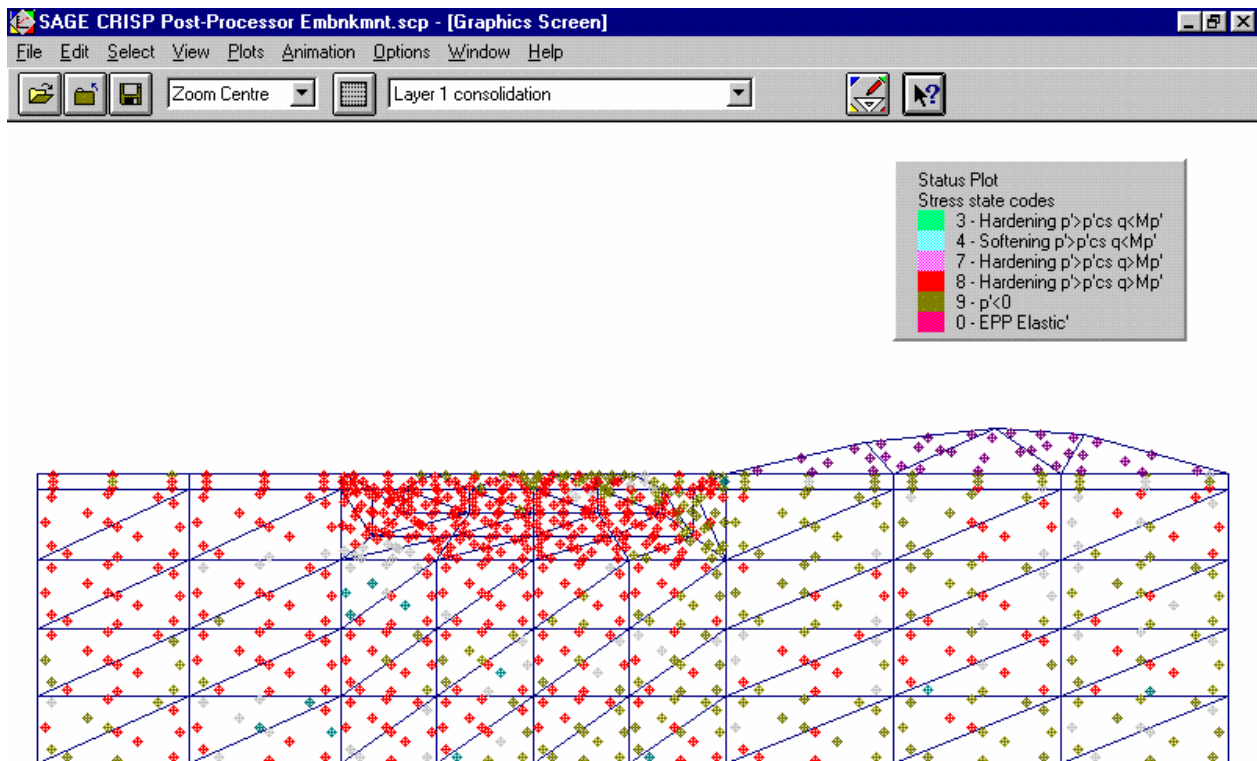

Figure 6-44: Stress State Code Plot for Increment 21
- Step 17** The Graphics Window should now look similar to Figure 6-44.